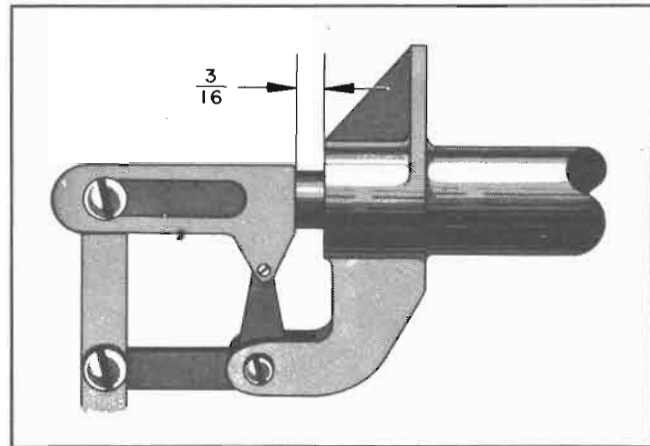

Figure 114 — Lockpin Push Rod Adjustment
3. Obtain a distance of $10\frac{7}{8}$ inches between the attachment point centers of the left outboard control rod at the lockpin. (See figure 114.)
5. Adjust the right outboard control rod (figure 114) at the lockpin to $11\frac{1}{8}$ inches, from the center rod at the end fitting hole to the center of the other